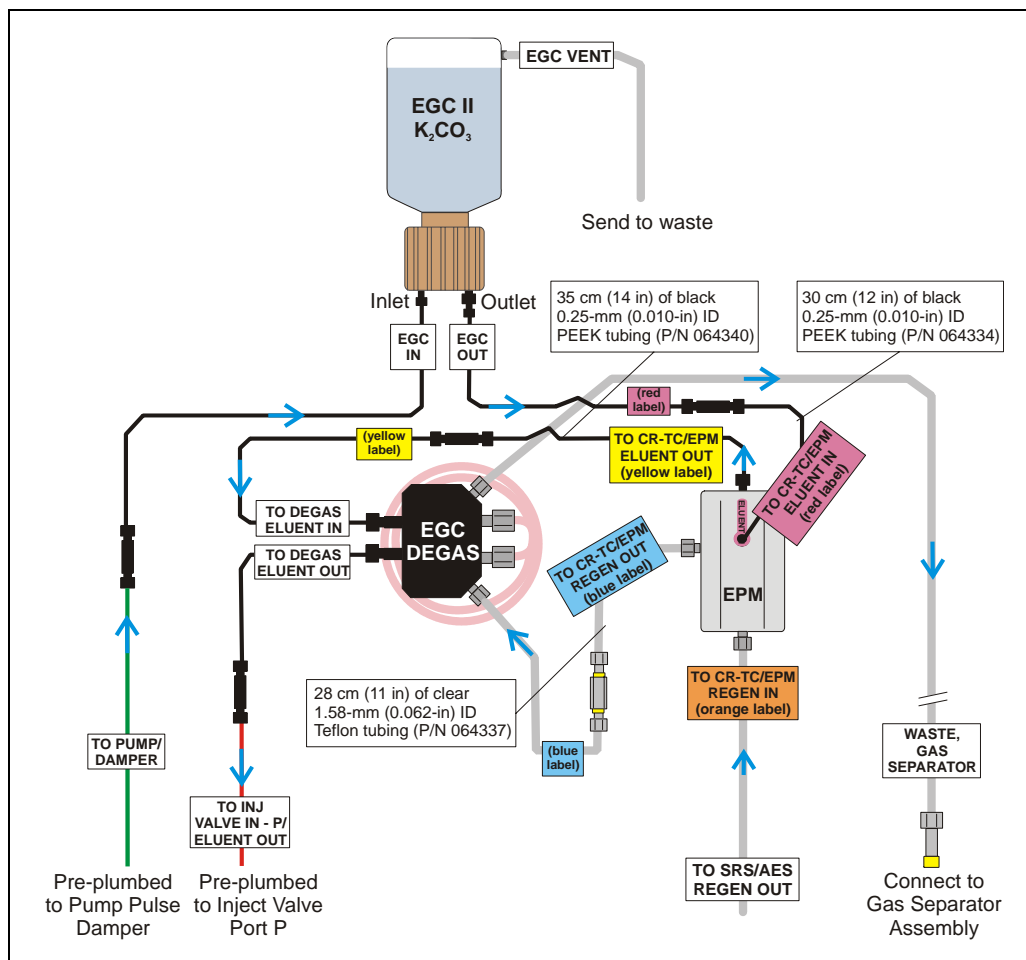

Figure B-63. *EluGen Cartridge and EPM Plumbing with Tubing Extensions*
- a. Disconnect the **TO CR-TC ELUENT IN** line (red label) from the coupler that connects it to the **TO CR-TC ELUENT OUT** line (yellow label). Connect a 32 to 10-32 coupler to the end of the **TO CR-TC ELUENT IN** line and connect the 30 cm (12 in) length of black PEEK tubing (red labels) (P/N 064334) to the coupler (see Figure B-63).
- Connect the **TO CR-TC/EPM ELUENT OUT** line (yellow label) to the **ELUENT OUT** port on the EPM (see Figure B-63).